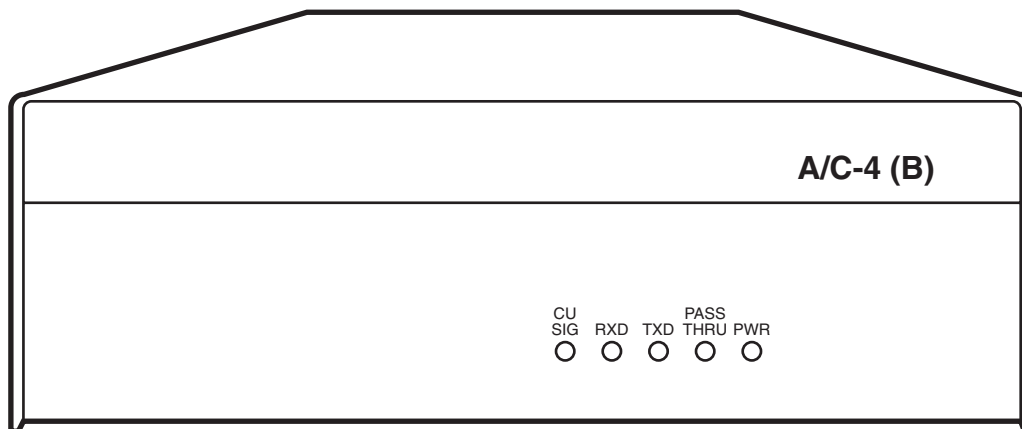

Figure 2-1. A/C-4 (B) Front Panel.
The front panel of the A/C-4 (B) has five LED indicators, as shown in Figure 2-1.
- **CU SIG** — Steady light indicates the the A/C-4 (B) is communicating, or answering polls with the IBM Control Unit.
- **RXD** — Rapidly flashing light indicates that the A/C-4 (B) is receiving data from the terminal or modem attached to the main port.
- **TXD** — Rapidly flashing light indicates that the A/C-4 (B) is transmitting data to the terminal or modem attached to the main port.
- **PASSTHRU** — Steady light indicates that the A/C-4 (B) is in passthrough operation.